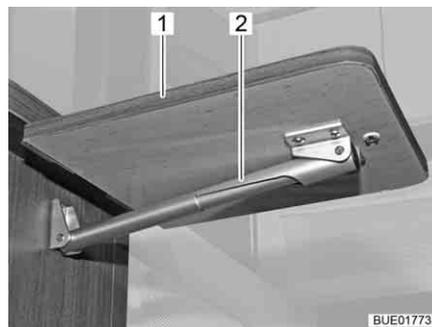

Fig. 130 Folding worktop, unfolded
- Gently pull the folding worktop (Fig. 130,1) to release it from the magnetic holder.
- Swing up the worktop until the fixture of the telescopic holder (Fig. 130,2) engages.